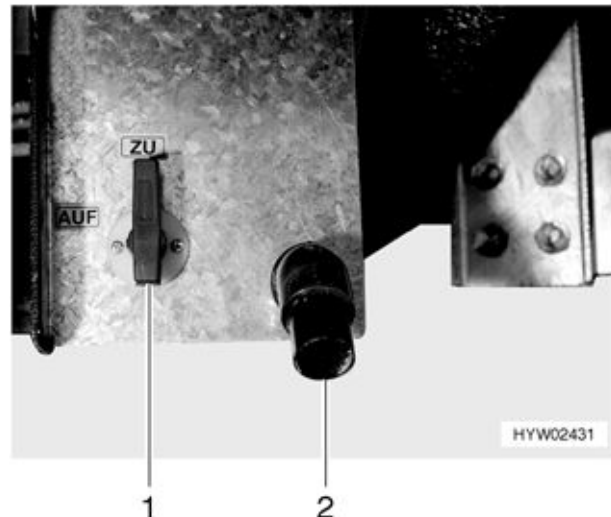
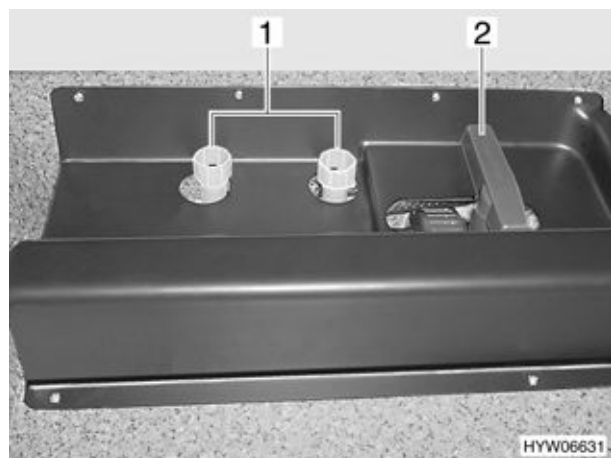

Fig. 162 Operating lever and drain pipe of the waste water tank, closed
Fig. 163 Operating levers for waste water tank in the rear garage, closed
- at the drain pipe (Fig. 162,2) on the left-hand or right-hand vehicle side (Fig. 162,1) for models without double floor
- in the rear garage/rear storage space (Fig. 163,2) in the case of model with double floor bottom.
The waste water hosepipe (standard) is in the gas bottle compartment and can be put on the drain pipe (Fig. 162,2) as an extension.
- In order to open the drain cock turn operating lever (Fig. 162,1 or Fig. 163,2) a quarter turn in an anticlockwise direction. The lever is now horizontal.